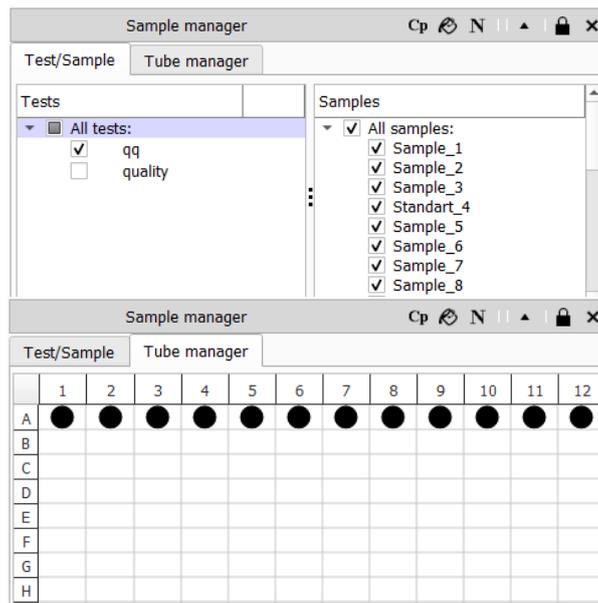

Figure 60 – The **Sample manager** workspace: a – **Test/Sample** tab; b – **Tube manager** tab
1. Changing the list of tests and samples for viewing (**Test/Sample** tab, fig. 60, a).
2. Changing the selection of tubes (**Tube manager** tab, fig. 60, b).